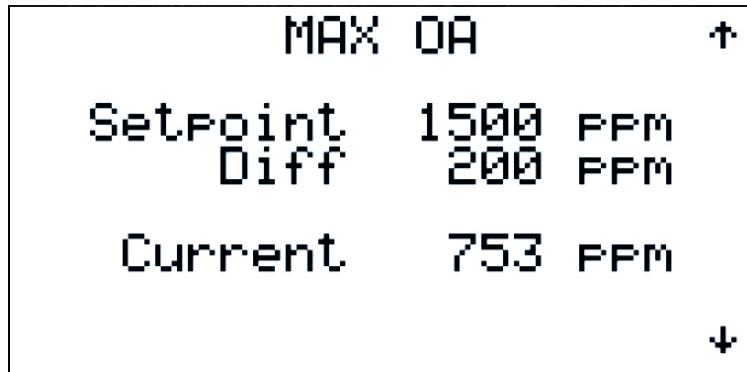

Figure 64
2.3.3.2.6. Tuning – Maximum Outdoor Air (Figure 64)